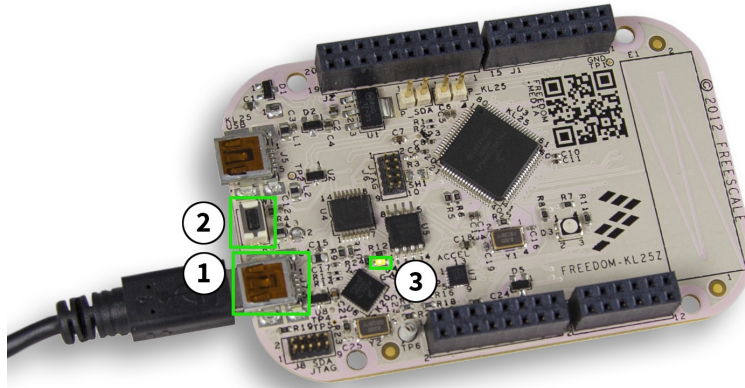

Figure 8. Freedom Development Platform KL-25Z
2. If not already done, Freescale recommends updating the OpenSDA boot loader for the Freedom Development Platform to the most recent release for that board. There are two generations of OpenSDA boot loaders in existence. Each is targeted at specific boards. Version 1.0 (also known as **P & E Micro**) boot loaders may be found at www.pemicro.com/opensda. Freescale recommends these loaders for the KL25Z, KL26Z, KL46Z and K20D50M boards, see Figure 8 for example of the KL-25Z.
The following procedure outlines the process for updating the OpenSDA Version 1.0 boot loader. The Version 2.0 process is similar, but uses .bin files. Consult the links above for the latest instructions. See Figure 8.